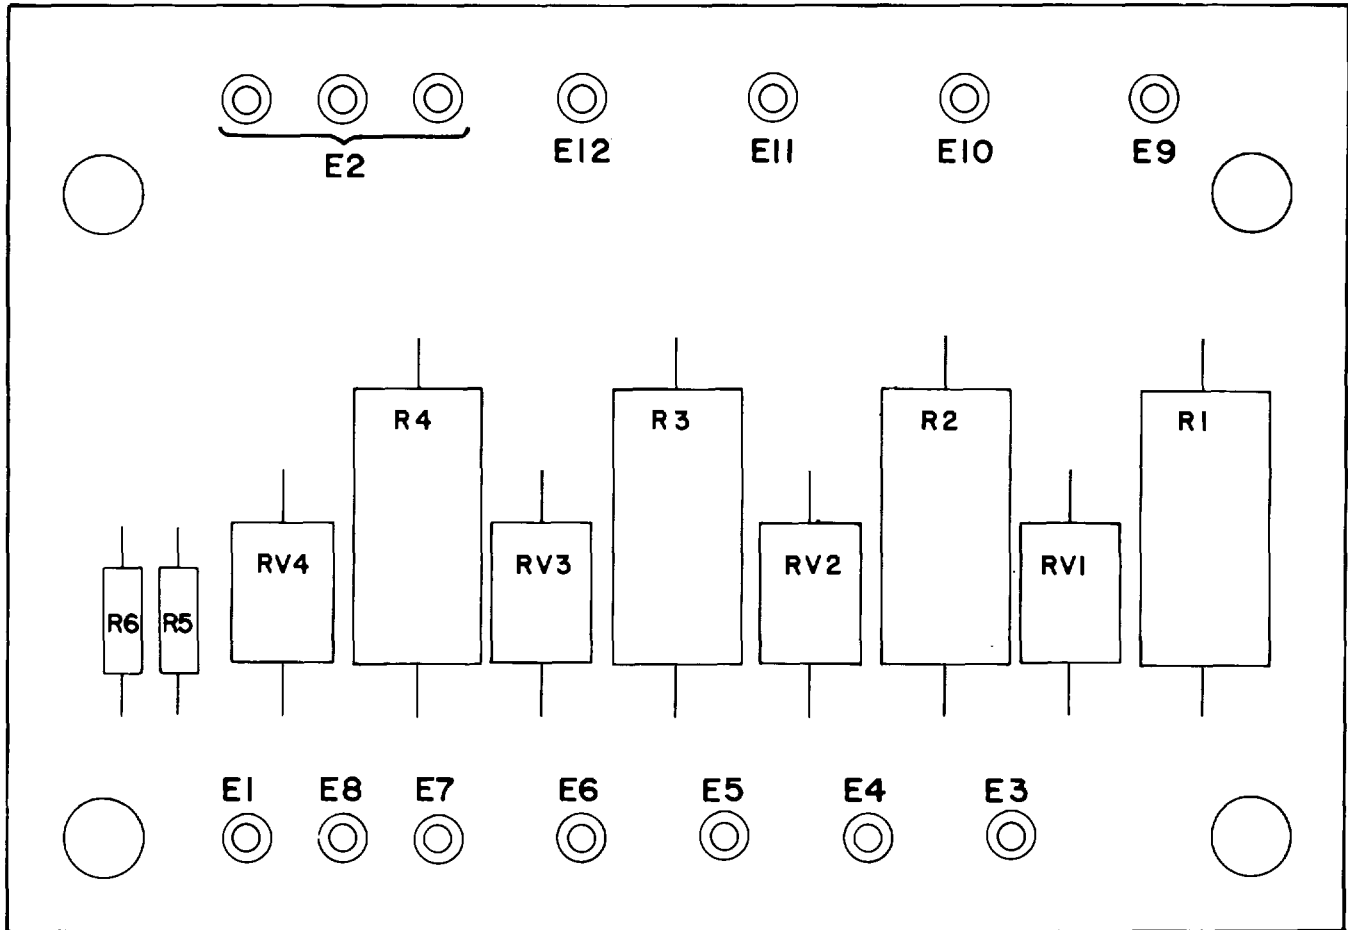

Figure 4-7. Voltage Surge Suppressor Circuit Card Assembly, 1A2A6
g. Voltage Surge Suppressor Circuit Card Assembly (1A2A6) Disassembly. This circuit card assembly should be removed only when servicing or component replacement is required. To remove this circuit card assembly, perform the following procedures. Refer to figure 4-7 for location of component be replaced.
(1) Tag and disconnect wiring from solder joints E1 through E 13.
(2) Remove four screws, washers and electrical spacers holding the voltage surge suppressor circuit card assembly in place.